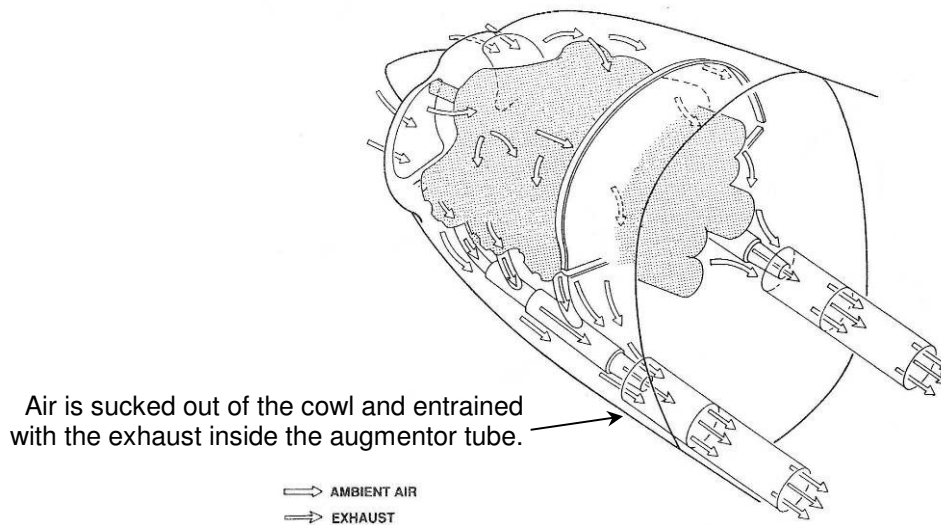

Figure 60. Augmentor Exhaust System
- Augmentor type exhausts (Figure 60) can also be used to suck air out of the cowlings.
- For amphibian or seaplane aircraft using a pusher engine installation the methods outlined above can use the propeller to suck air out of the cowls, but ultimately the effect is limited and can conflict with cooling requirements in other modes of flight. For these installations some form of active venting for the cowls – such as flaps, fans or an augmentor-type exhaust system (See Figure 60) may be required.